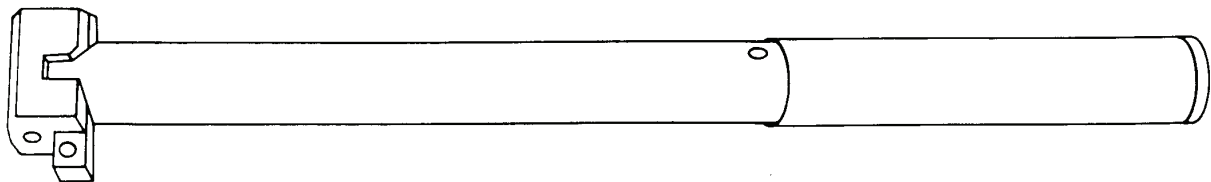
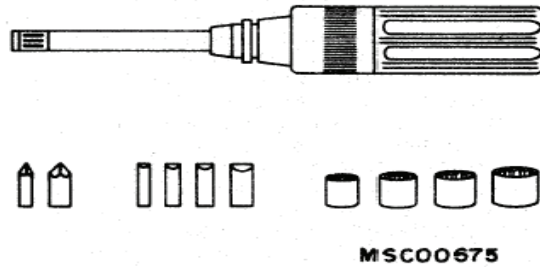

Figure 12. Type V torque wrench, rigid case, preset torque, audible signal.
Figure 13. Torque screwdriver (direct reading, typical).
**Torque Wrench, Audible, Preset Torque:** (figure 12). Note torque value setting on handle of TI. Gradually apply perpendicular force on handle of TI until audible (snap) signal is heard. Stop applying force at this point.
**Clutch-Type Torque Screwdrivers:** Turn TI in clockwise direction and observe that torque cell indication remains at 0. Remove TI from torque cell. Insert TI into appropriate torque cell, using adapter (part of tool set) as required. Set screwdriver for cardinal point in (1) above. Gradually apply rotational force on handle of TI until clutch automatically releases. Stop applying force at this point.
**Direct-Reading Torque Screwdrivers:** (figure 13). Perform 9 below.
(4) Slowly release force and record reading on indicator. Remove TI from torque cell. Press the **↵** soft key to reset the force/torque indicator (snap wrenches only). Press the **→0←** soft key to zero force/torque indicator.
(5) Repeat technique of (4) above with the applicable note two more times.
(6) Compute average reading of indications recorded in (4) and (5) above. If average reading is not within limits specified in table 1 for TI being calibrated, perform **b** below.
(7) Repeat technique of (3) through (6) above at TI cardinal points of 60 and 100 percent of maximum range.